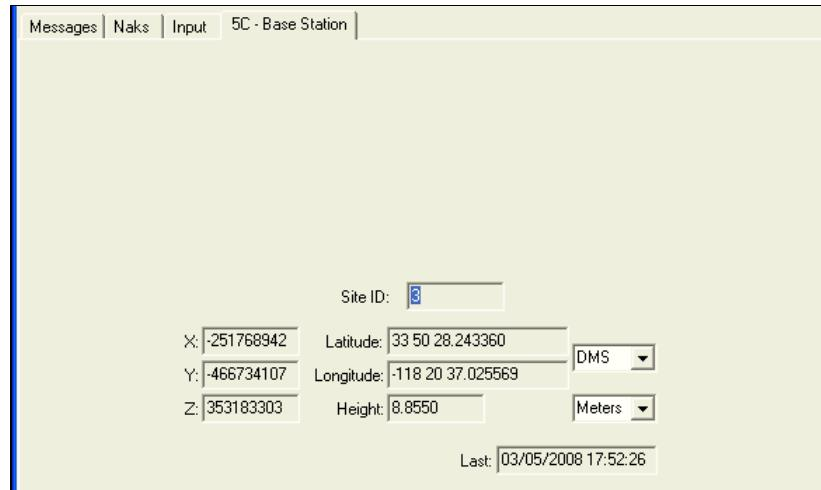

Figure 51: 5C – Base Station
- *5C – Base Station* (see Figure 51)